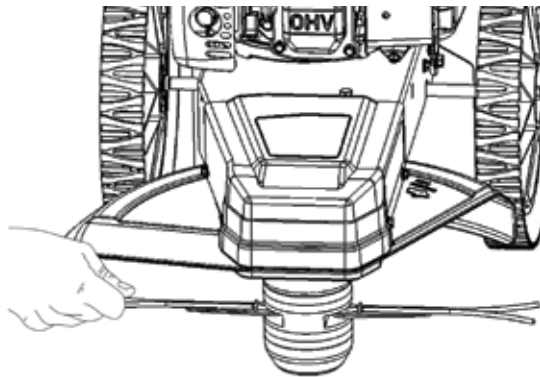

Figure 11
1. Insert the ends of the cord into the side opening in the line plate (see Figure 11), and pull the cord through.